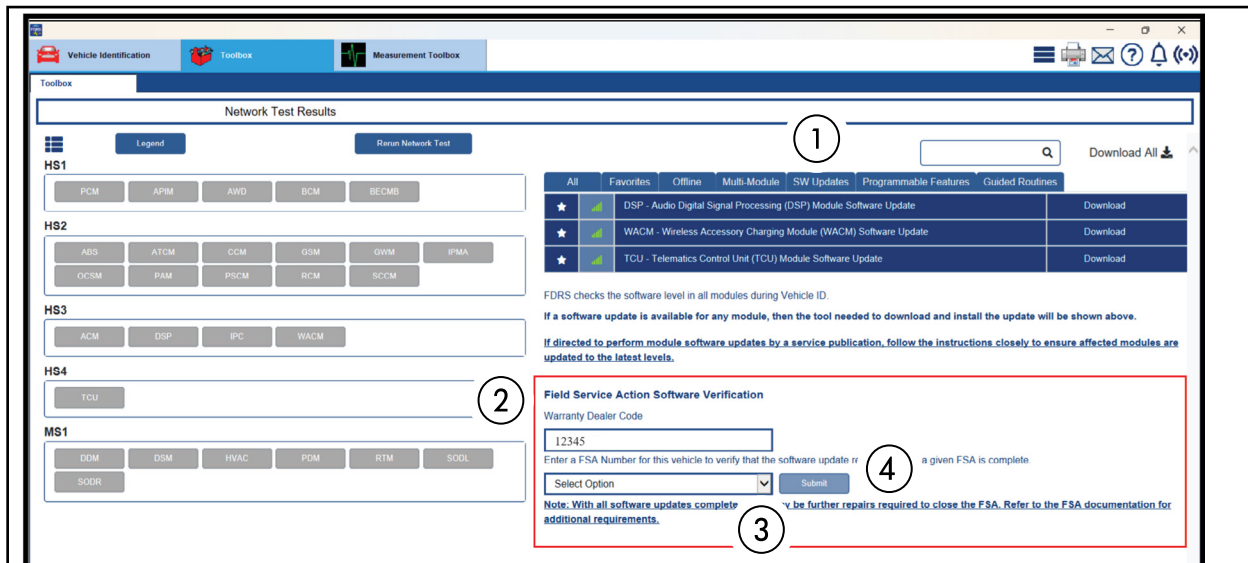

FIGURE 2
- b. Wait ten (10) minutes.
19. Select the **SW Updates** tab (1). See Figure 2.
20. **Warranty Dealer Code** (2) - Change the displayed PA code as necessary. See Figure 2.
21. Select the **FSA** (3) from the drop-down menu. See Figure 2.
22. Select **Submit** (4). See Figure 2.